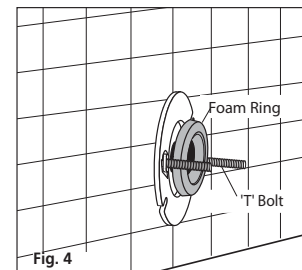

Fig. 4
- 2- Position 'T' bolts and foam ring onto closet flange, as detailed in **Fig. 4**.